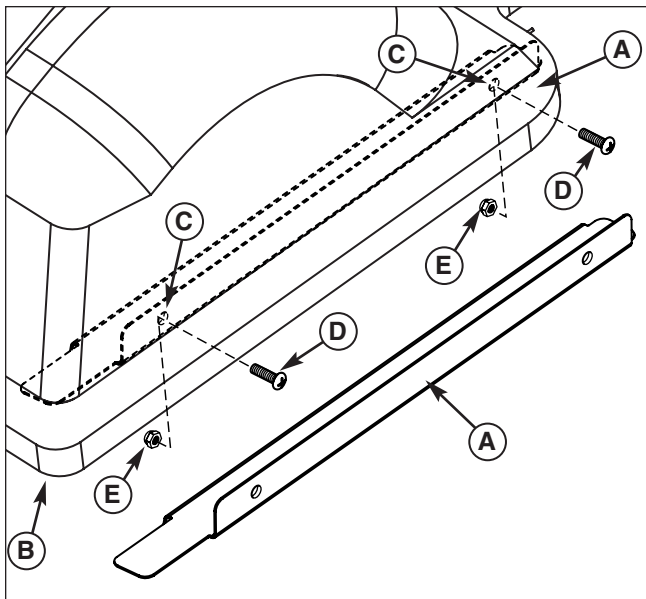
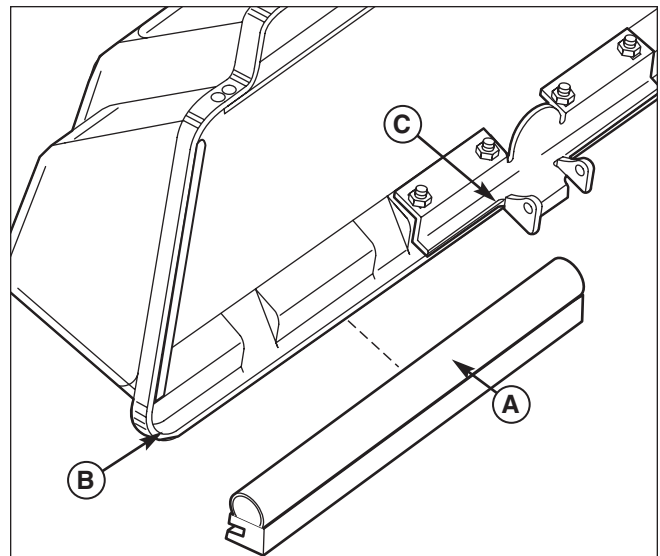

Figure 28. Install Deflector Plate
Figure 29. Install Thick Seal
1. Hold deflector plate (A, Figure 28) in cover (B) as shown and mark new hole locations using deflector plate holes as a guide.
3. Secure deflector plate (A) to cover (B) using #10-24 x 3/4 screws (D) and #10-24 locknuts (E).
4. From the inside of grass catcher slide the thick seal (A, Figure 29) starting at the LH side of the hinge edge (C) to the corner (B) on the cover edge as shown.